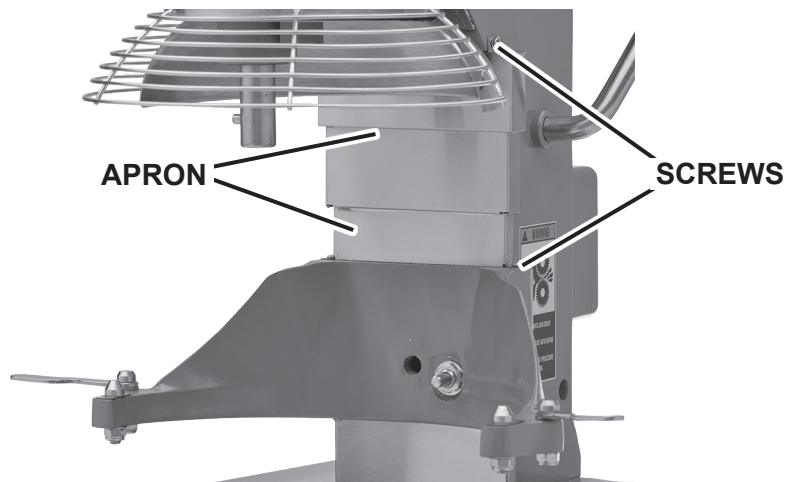

Fig. 12
- Remove the apron (Fig. 12), which is secured by screws.